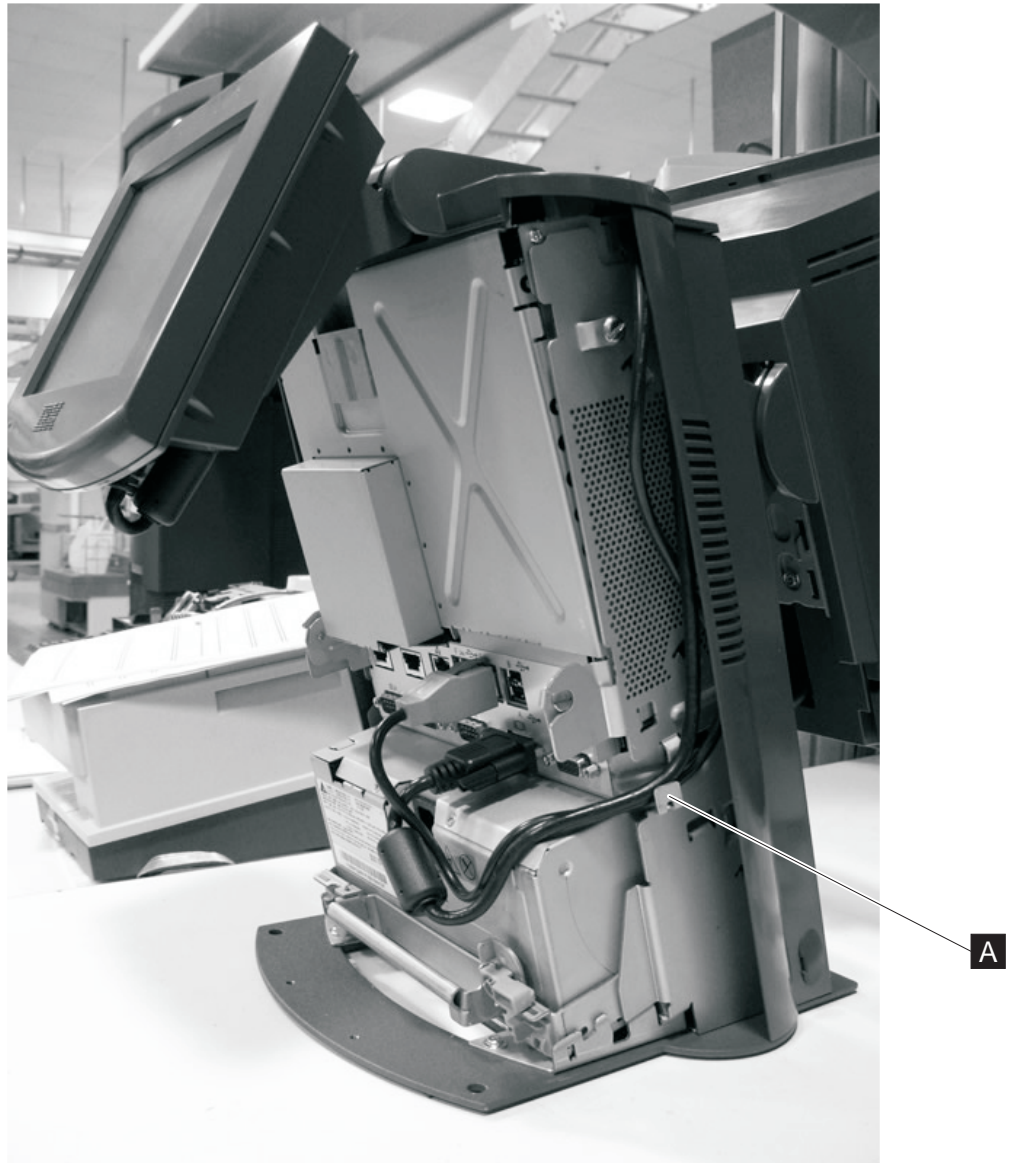

Figure 50. Cable notch
9. Route cable down the right side of the unit through the notch. **A** in Figure 50 illustrates the notch.